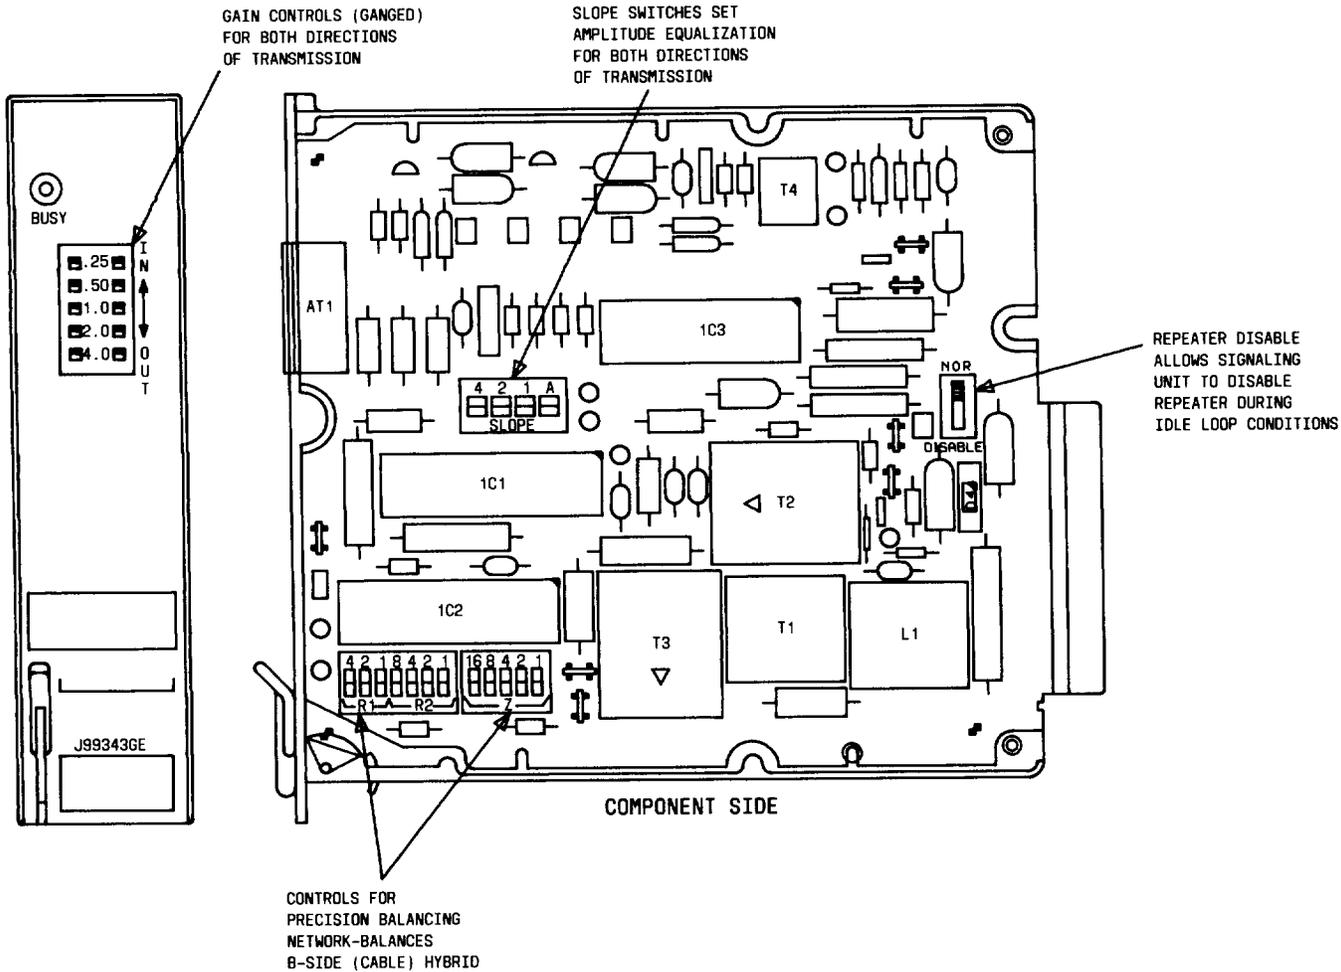

Fig. 1—LSE/2-2 Wire (NL) Terminal Repeater (J99343GE) Component Layout
4.01 The balancing network used on the B side of the J99343GE CFU is incorporated into the integrated circuits (IC). The IC balancing network of the GE CFU is equivalent to the 4240B PBN used in previous MFT repeaters to impedance match nonloaded cable facilities. The switches for the IC balancing network, located on the internal component board of the GE CFU, are designated with the same labels as the 4240B PBN. The positions of the switches are shown in Fig. 1.